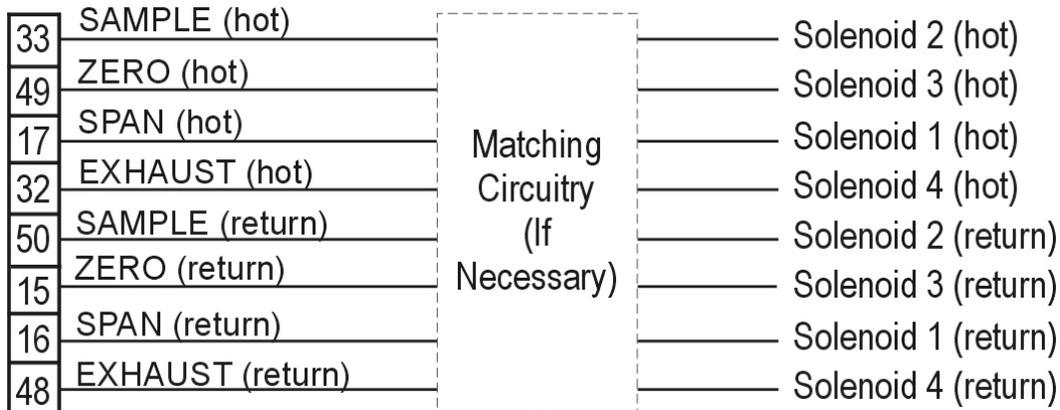

Figure 3-5: Remote Probe Connections
**Span:** Floating input. 5 to 24 V input across the + and – pins puts the analyzer into the *Span* mode. Either side may be grounded at the source of the signal. 0 to 1 volt across the terminals allows *Span* mode to terminate when done. A synchronous signal must open and close external span valve appropriately. See Figure 3-5 Remote Probe Connector. (The –C option internal valves operate automatically.)
connections are used as a method for directly controlling external sample/zero/span gas valves. See Figure 3-5.